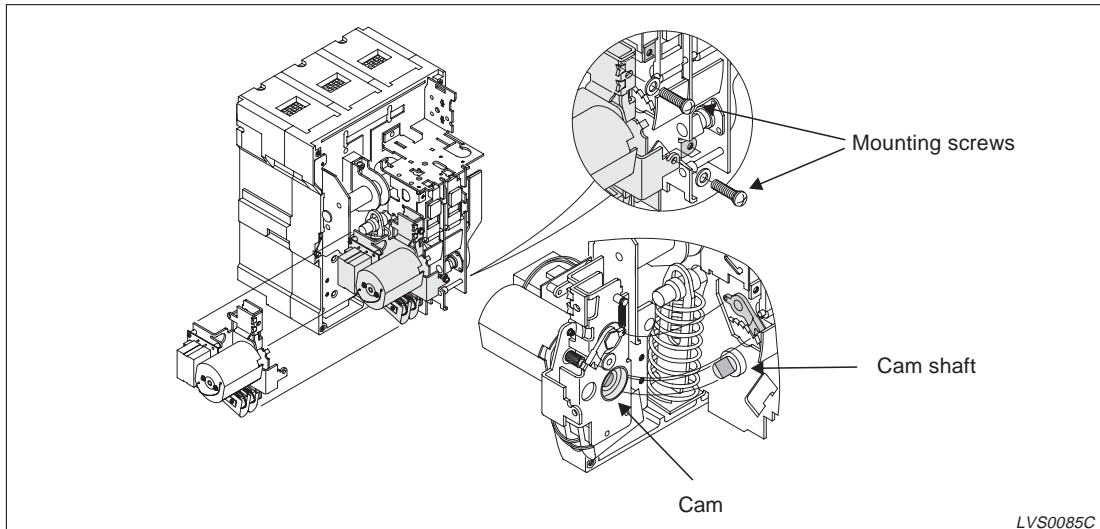

Fig. 4-22: Mounting the motor charging device
- ④ Align the notch of the cam and the cam shaft, and insert the cam into the cam shaft as shown in fig. 4-22.